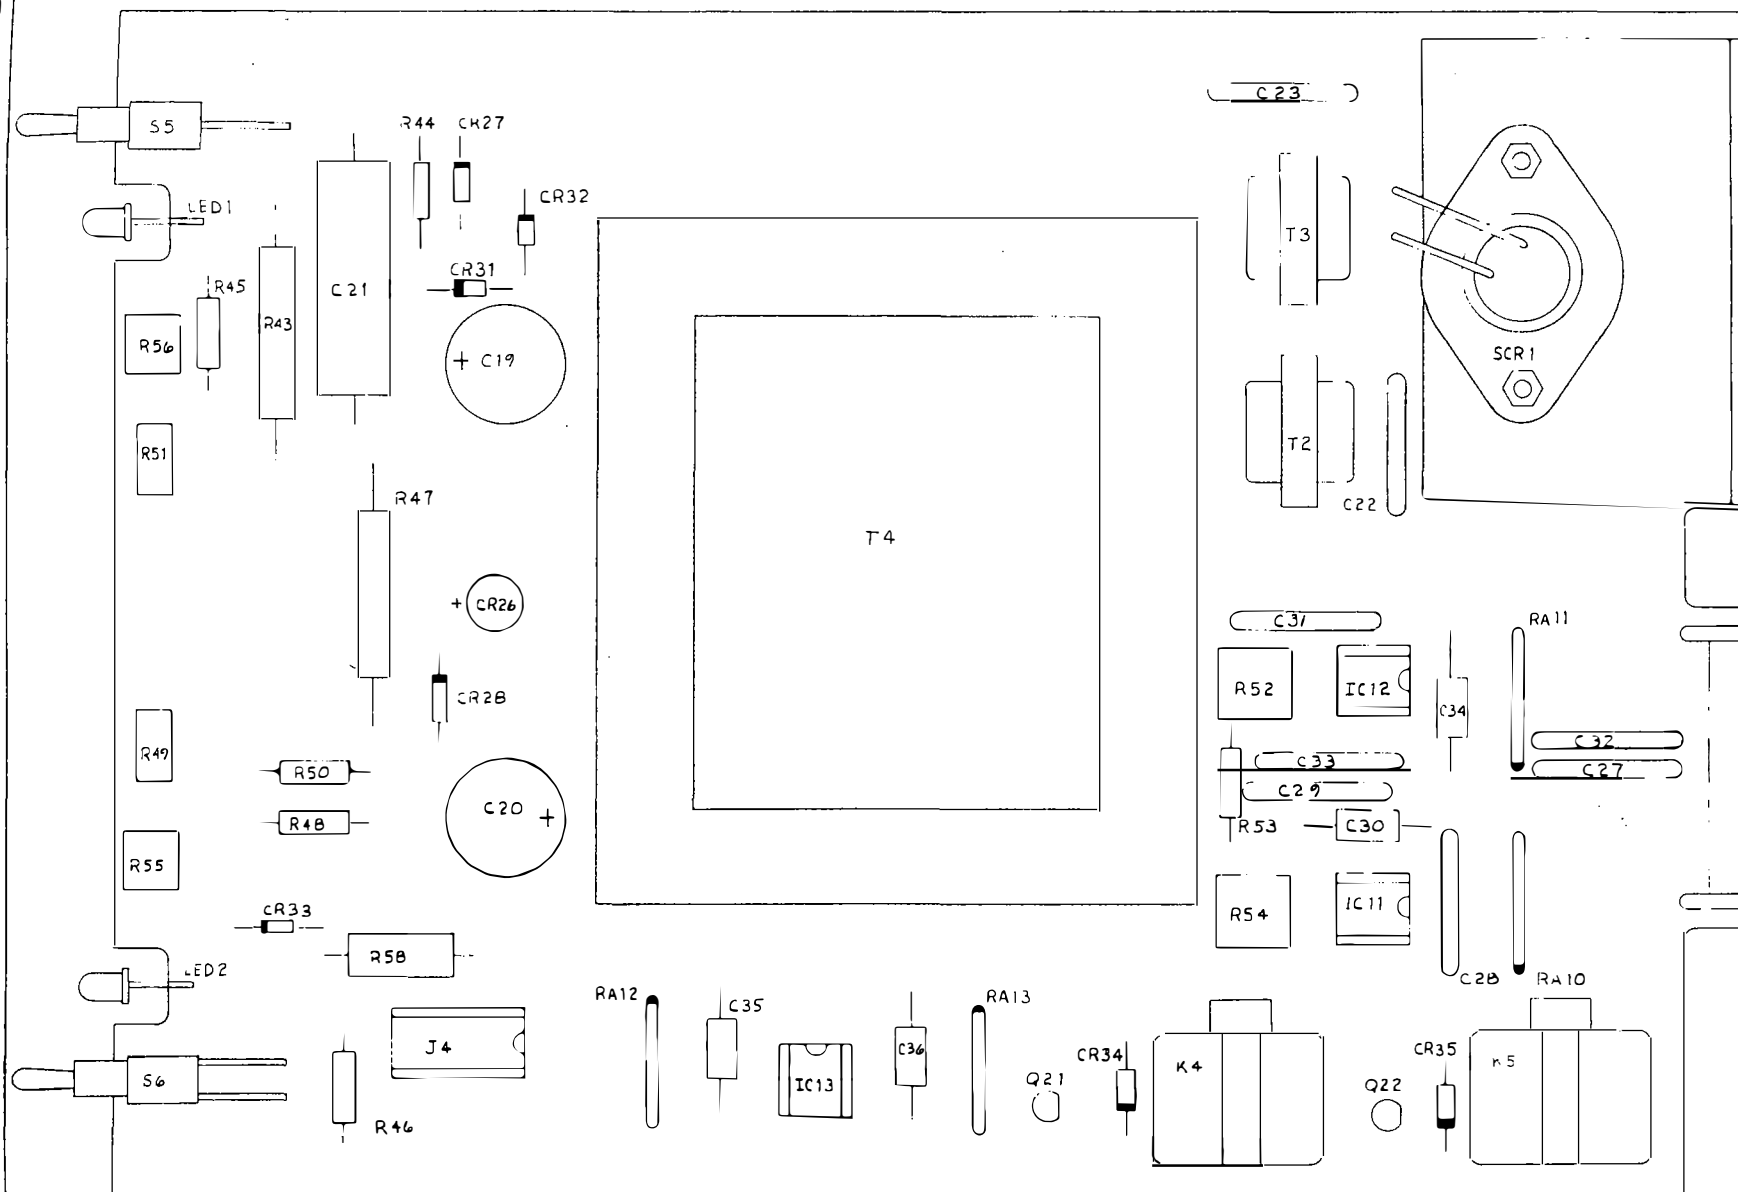

FIG.6-2 COMPONENT LOCATION POWER BOARD
### 6.4 Power Supply Problems (Refer to Fig. 5-3 and Fig. 6-2)
6.10 Thermocouple Process Control (Refer to Fig. 5-9 and Fig. 6-2)